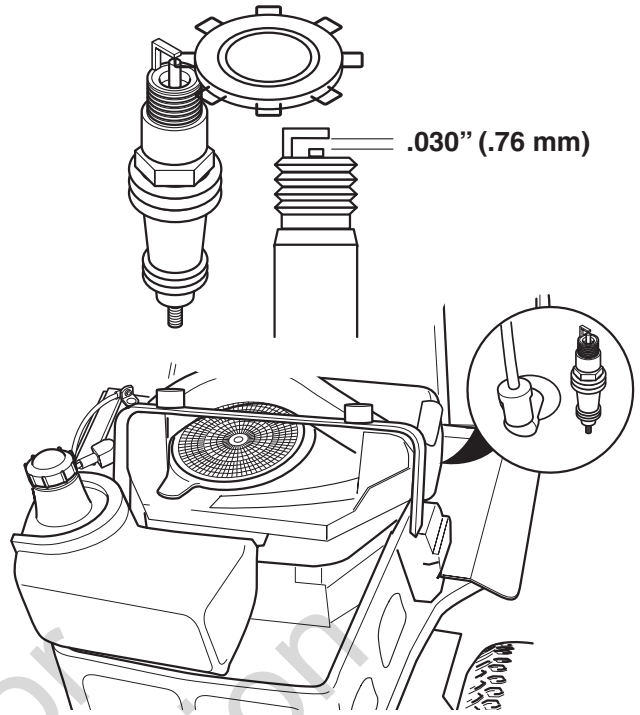

Figure 31. Spark Plug Gapping
4. Check the spark plug gap. The gap (new or used plug) should be .030" (see Figure 31).